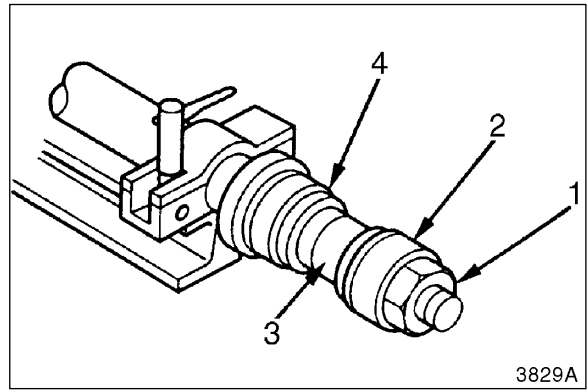

Figure 10
- Remove piston nut (1, Figure 10), piston assembly (2), cushion flange (3), and cylinder head assembly (4).